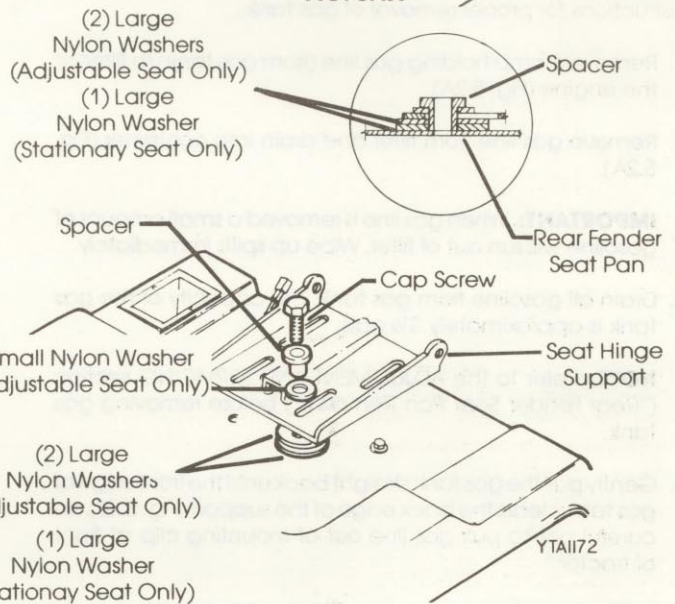

FIG. 5.1B
4. Remove the seat hinge support from the rear fender seat pan (Fig. 5.1B). Remove all four cap screws, spacers and washers.
IMPORTANT: When reassembling the spacers to the rear fender seat pan be sure the spacer goes through the two large nylon washers completely. The spacer must rest against the rear fender seat pan (Fig. 5.1B Circled Illustration).